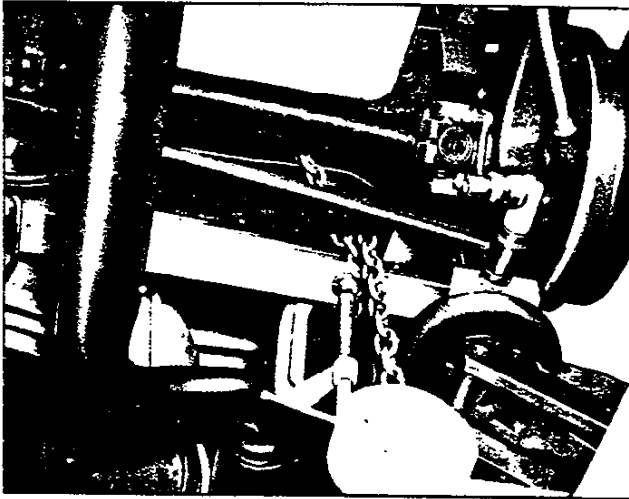

Fig. 18—Chain Installation
3. Wrap $\frac{1}{4}$ " or $\frac{5}{16}$ " chain with grab hook around suspension crossmember and spring, and hook chain securely with grab hook. Secure chain to spring with C clamp to prevent slipping (fig. 18).